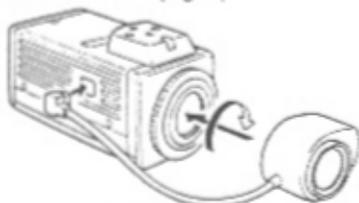

Fig. 2
- (2) Mount the lens by turning it clockwise onto the lens mount of the camera.
- (3) Connect the lens cable to the Auto Iris Lens Connector on the side of the camera. (Fig. 2)